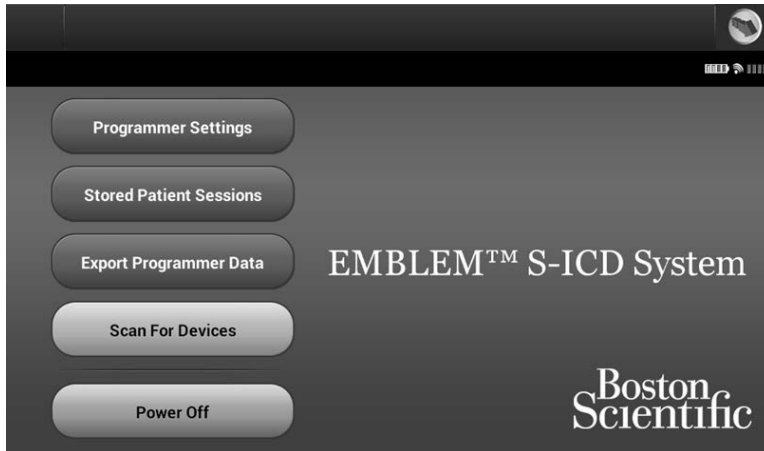
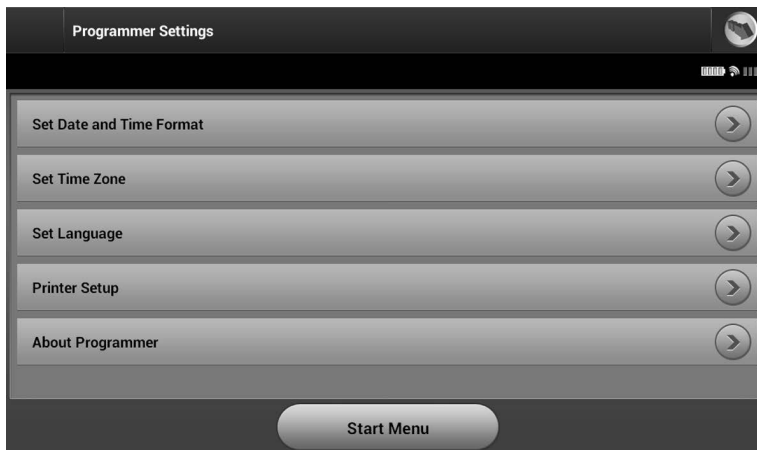
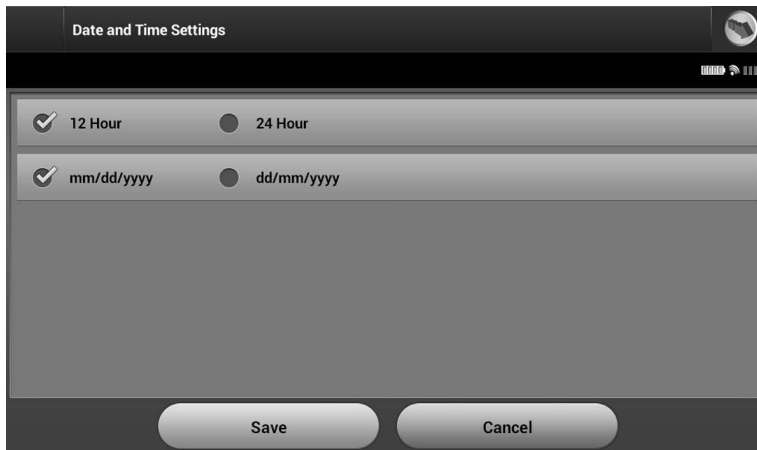

Figure 6: *Programmer start-up screen*
Figure 7: *Programmer Settings screen*
Figure 8: *Date and Time Settings screen*
1. Select the Programmer Settings button on the programmer start-up screen (Figure 6) to display the Programmer Settings screen (Figure 7).
1. Select Set Date and Time Format on the Programmer Settings screen (Figure 7). The Date and Time Settings screen appears (Figure 8).